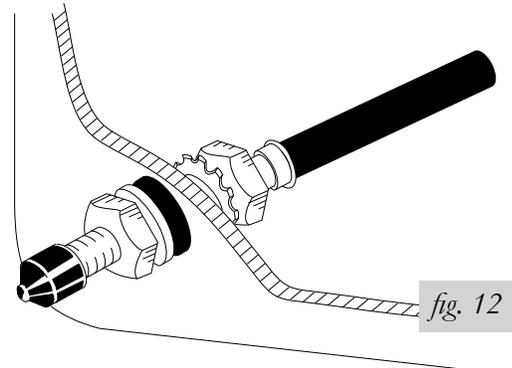

fig. 12
4. Place a 5/16" nut and a star washer on the air valve. Leave enough of the inflation valve in front of the nut to extend through the hole and have room for the rubber washer, flat washer, and 5/16" nut and cap. There should be enough valve exposed after installation - approximately 1/2" - to easily apply a pressure gauge or an air chuck (fig. 12).
5. Push the inflation valve through the hole and use the rubber washer, flat washer, and another 5/16" nut. Tighten the nuts to secure the assembly in place (fig. 12).